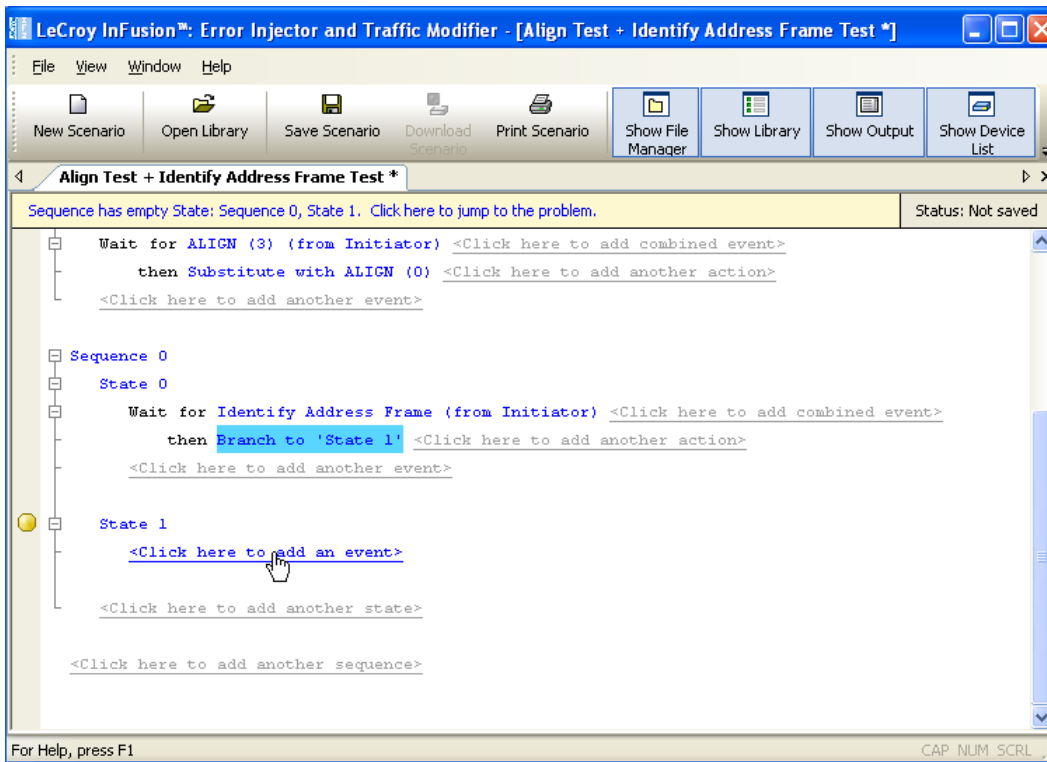

Figure 5.41 Example 7: Adding an Event for the Second State
- Step 10** In the State 1 area, click on the prompt to **add an event** (Figure 5.41).